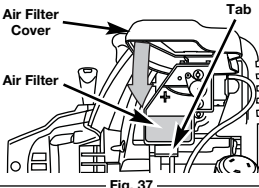

Fig. 37
- Swing the cover down until the tab on the air filter backplate snaps into place in the slot on the air filter cover (Fig. 37).